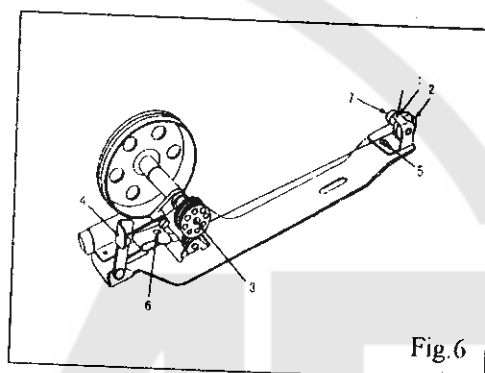

Fig.6
## 5. WINDING (Fig.6)
## 6. WINDING ADJUSTMENT (Fig.6)
2) Adjusting the lift of alternating presser feet: If the height of the lifting presser foot changes, the momentums of the lifting and vibrating presser foot vary, thus the height of the vibrating presser foot must be adjusted. To adjust this, lower the presser bar lifter, holding the vibrating presser foot B (Fig.6) and loosen the hexagon screw 3 and move the presser foot up or down as may be required. After setting the position, tighten the screw.